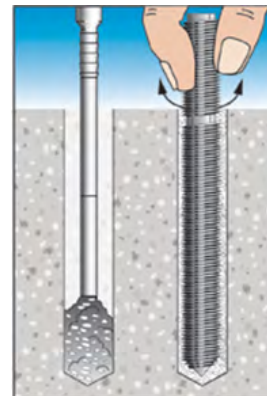

Figure 5.1B
5.1.4 Insert mixing nozzle to bottom of hole. Fill hole with adhesive to 3/4 the hole depth slowly, ensuring no air pockets form as shown in Figure 5.1B.
5.1.5 Insert Ramset™ ChemSet™ Anchor Stud/rebar to bottom of hole while turning as shown in Figure 5.1B.